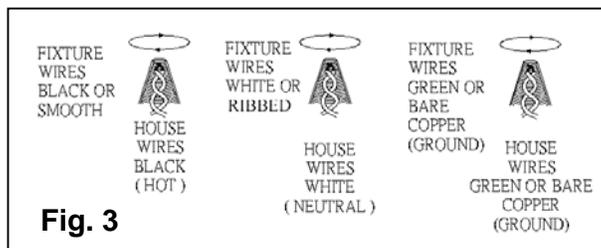

Fig. 3
CONNECTING THE WIRE (See fig.3)
1. At this point, connect the electrical wires as shown in Fig. 3, making sure that all wire connectors are secured. If your outlet box has a ground wire (green or bare copper), connect the fixture's ground wire to it. Otherwise, connect the fixture's ground wire directly to the crossbar using the green screw provided.
2. Tuck the wire connectors neatly into the ceiling outlet box and raise the canopy (U) and collar ring (Y). Then thread collar ring (Y) onto collar loop (T) protruding through canopy.